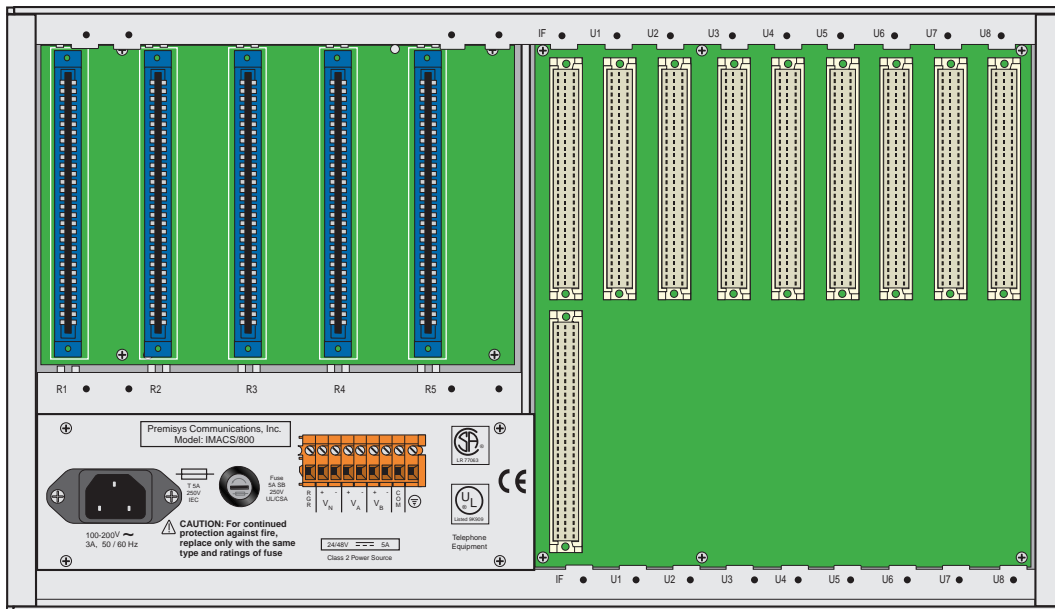

Figure 1-3. Two-Sided Chassis Rear View (891830)
Figure 1-3 shows the rear of the two-sided chassis. The eight user slots (U1 to U8) accommodate a variety of user cards, and the interface slot (IF) is used by the Interface card. Slots R1 to R5 accommodate the optional AC-to-DC power converters and ringing generators. Table 1-2 lists the card slots for these chassis; use that table to determine your chassis card configuration.